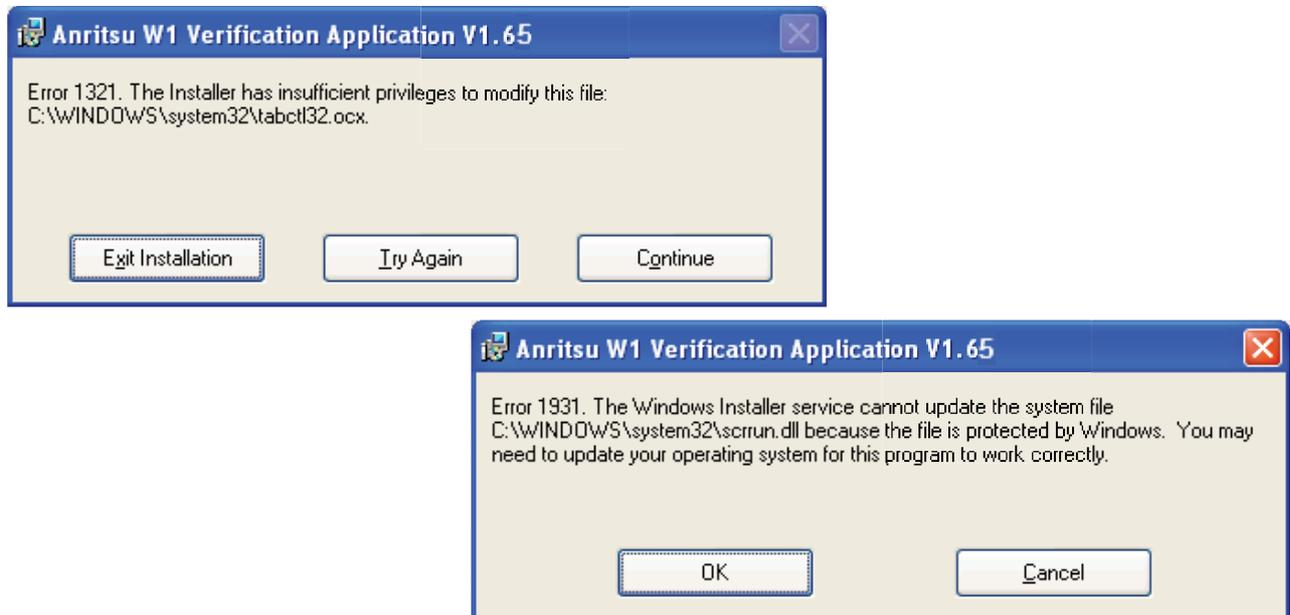

Figure 6-3. Installation Error 1321 and Error 1931 Dialog Boxes
8. If either of the two dialog boxes shown in Figure 6-3 for Error 1321 or Error 1931 appear, follow these instructions: